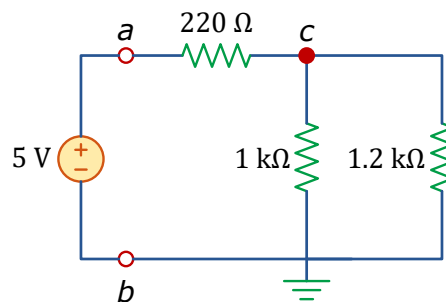

Figure 1.3: Resistive circuit for Lab Experiment 1 with DC power supply.
- 4** Adjust the output voltage of the DC power supply to approximately 5 V (with ± 0.1 V tolerance) and connect it to the resistive circuit that you built for the last question, as shown in Figure 1.3. Calculate the voltages at nodes a and c with respect to node b (V_{ab} and V_{cb}), as well as the voltage from node c to node a (V_{ca}), using the measured resistance values from the **LCR Bridge** in question **1**. Then, measure the same voltages using the digital multimeter and write them down in the Table below. Compare and comment on the calculated and measured voltage values.
- 5** Using the measured resistance values from the **LCR Bridge** in question **1**, calculate the current through each of the three resistors in Figure 1.3 (choose an arbitrary direction for each current and label them clearly on the circuit diagram in the figure). Then, measure the current through each of the three resistors, using the digital multimeter and write the values down in the Table below. Compare and comment on the calculated and measured voltage values.